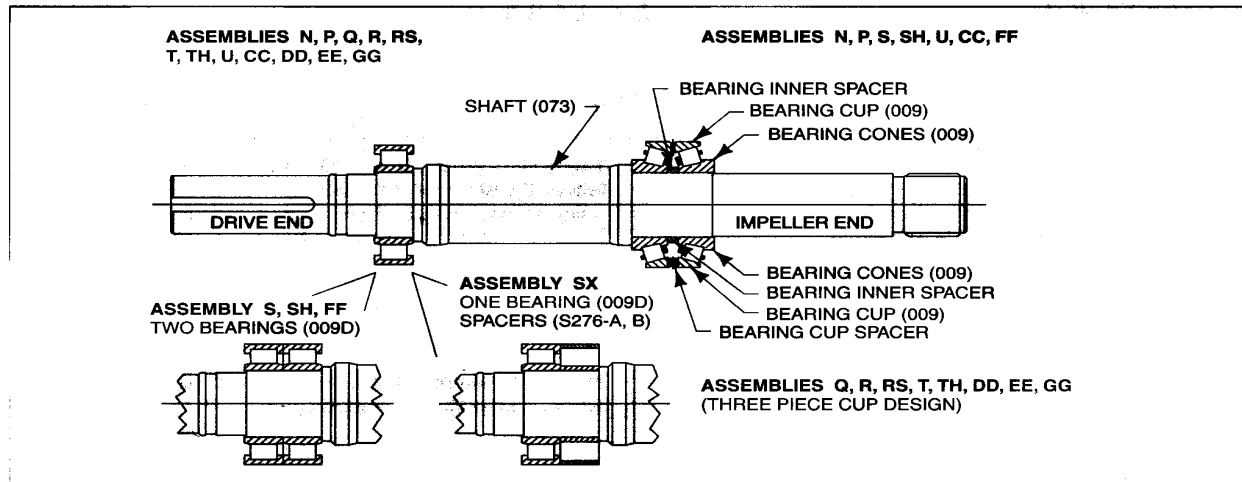

Figure 3-1 • Fitting Drive and Impeller End Bearing Assemblies
The information provided in this section pertains to bearing assemblies built from 1976 to present. See *Figure 3-1* for bearing configuration.
FITTING OF DRIVE END INNER RING BEARING AND IMPELLER END BEARING (Figure 3-1)
4. Turn shaft end for end (impeller end up). Fit one cone of BEARING (009) with large diameter against shaft shoulder as shown in Figure 3-1.
Fit the cone spacer of BEARING (009) on the shaft against smaller end of cone as shown in Figure 3-1. For bearing assemblies using a one piece cup, check for the correct match number, if applicable, and fit the cup over the cone. With those having a three piece cup, match the cup to the cone, if applicable, and place over the cone. Follow up with the cup spacer and the remaining cup.
5. Fit the second cone of BEARING (009) on the shaft with the smaller end of the bearing against the spacer. It is important that the cones and spacer are located hard against one another and against the shaft shoulder.